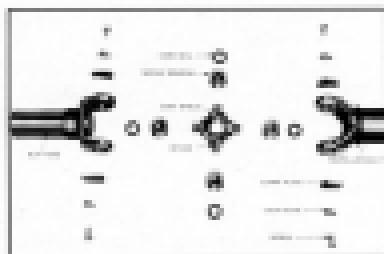

Fig. 159. Universal Joint Details (Screw and Clamp Plate Type).
- The screw and clamp plate type (See Fig. 159).